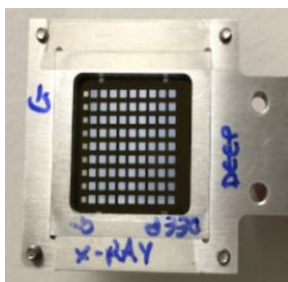

Figure 1
At the Cornell High Energy Synchrotron Source (CHESS), a microchip system is used to deliver crystals to the X-Ray beam in the serial crystallography experiment. The chip (Figure 1) contains up to 81 grids of 40x40 wells of 10-100 μm in size (Figure 2) [2]. I will be using these terms to describe some functionalities of the program in the sections below.
- Searches for HDF5 master files in a given path and creates a list. Each master file corresponds to a single grid on the chip (Figure 1).